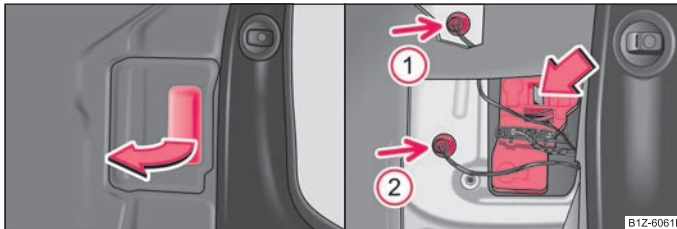

Fig. 153 Luggage compartment: Cover for the lamp holder / removing lamp holders
- Open the lamp holder cover ⇒ fig. 153 - left.
- Take out the light bulbs from the parking light (arrow ① and ②).
- Press the catches in the direction of arrow and take out the lamp holder ⇒ fig. 153 - right.
- Put the light bulbs from the parking light (arrow ① and ②) back in.
- Take the defective light bulb (arrow ① or ②) out of the light housing and replace it with a new one of the same type.